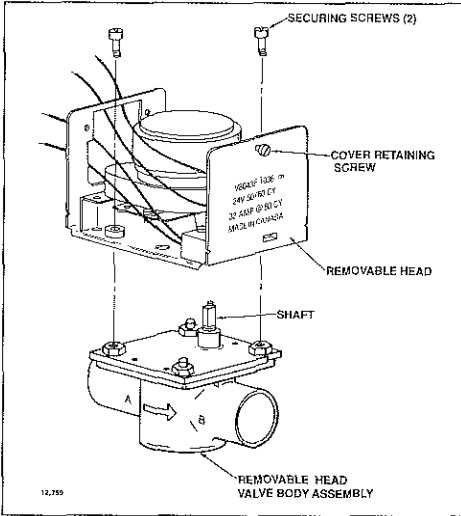

Fig. 4—Install new powerhead.
6. Install new powerhead (Fig. 4)—
- Remove the 2 screws securing the powerhead to the valve body (Fig. 4).
4. Install the new powerhead (see Fig. 4)—